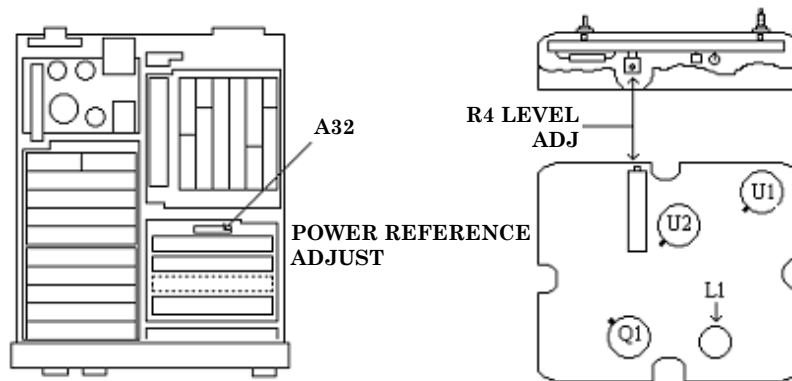

Figure 17. A32 board.
(4) If TI frequency indication is not between 49.5 and 50.5 MHz remove the thumb screw retaining the A32 oscillator and slide the assembly out. Adjust A32L1 (fig. 17) for 50 MHz \pm 0.5 MHz.
- (8) Press TI keys as listed in (a) and (b) below:
- (9) Using the *V* off value recorded in **13 a** (4) above and *C* value from **13 a** (7) above, perform the adjustment calculation using the formula below:
- (10) Adjust A32R4 LEVEL ADJ (fig. 17) to adjustment value calculated in (10) above. (R)
- (11) Disconnect equipment setup.